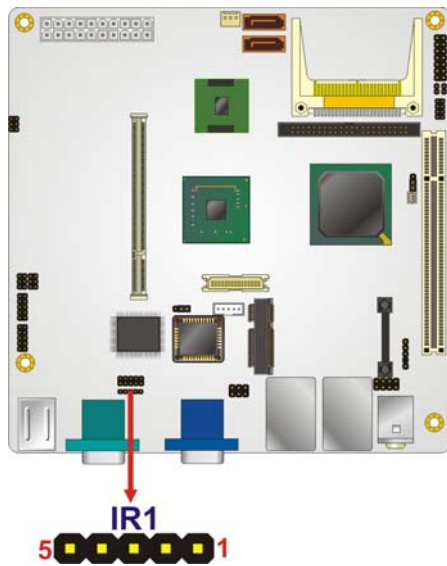

Figure 4-9: Infrared Connector Pinout Locations
- CN Location:** See **Figure 4-9**